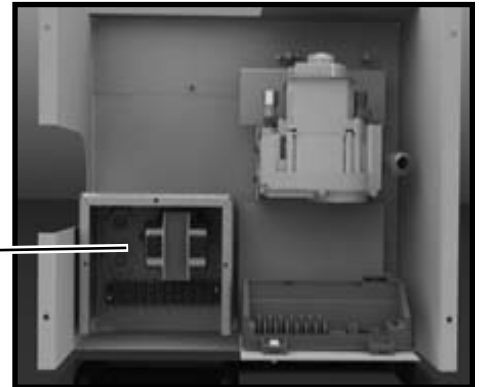

Figure 25: Electrical connections.
5. Run one 110 V. AC switched electrical supplies to the control box and connect to the transformer (Figure 25). The fireplace operates on 24V AC supplied by a transformer rated at 110 volts, 60Hz. See wiring diagram on page 29 for correct connections on terminal block.